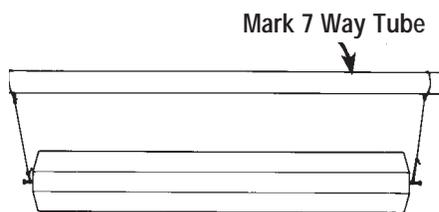

Figure D-41
2. To do this, drive a standard 8-penny nail straight into each center. Use suitable string to hang the stock in a level position from the front bench tube of the Mark 7 or a saw horse. The ends of the string should be looped around the nails. See Figure D-41. Gravity will pull the heavy side down. Use a jointer, bandsaw or hand plane to remove no more than 1/32" at a time from the heavy side until the stock remains stationary when rotated to three positions 90 degrees apart.